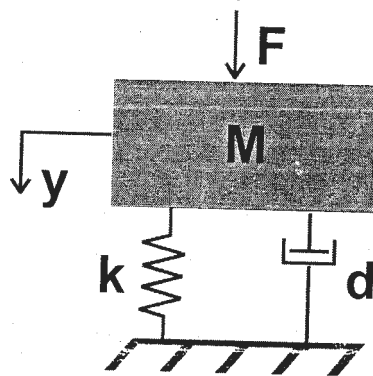

Figure 2
**Q7) a)** For the system in figure 2, Assume  $M = \text{mass} = 1\text{kg}$ ,  $k = \text{stiffness} = 2\text{ N/m}$  and  $d = \text{damping} = 0.5\text{ Ns/m}$ . Also,  $F = \text{force input in N}$  and  $y = \text{displacement output in m}$ . [10]